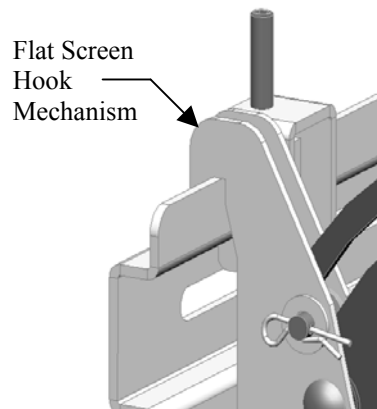
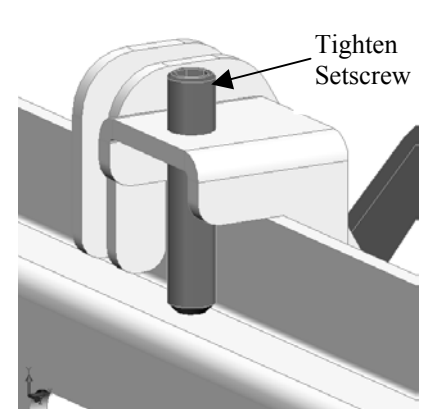

Figure 3
Figure 4
2. Tighten both setscrews until they are seated against the flat portion of the mount (See Figure 4). Make sure that both flat screen hook mechanisms (Figure 3) are unable to move from side-to-side.